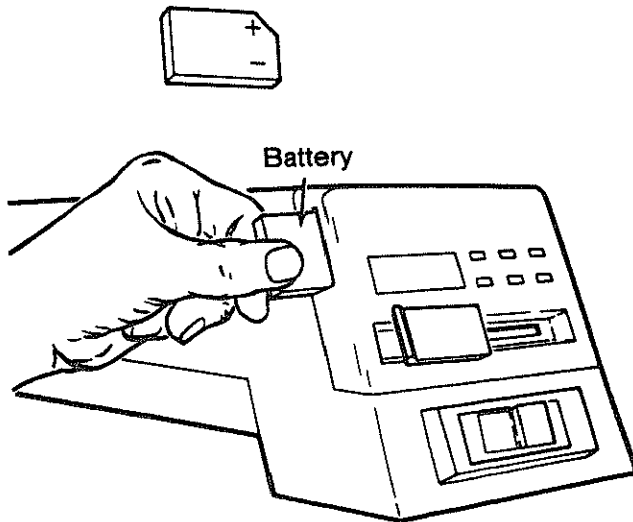

Fig. 130 - Installing the Battery
1. Slide the *battery* into the opening behind the digital display with the angled corner on top. (Figure 130)